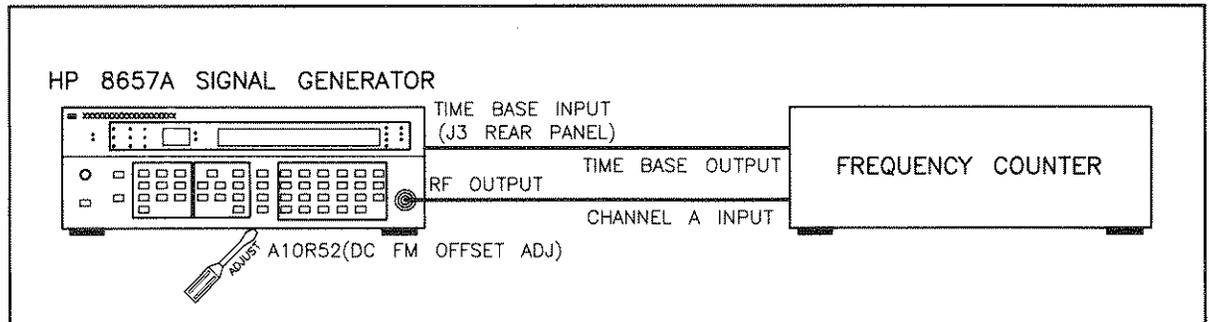

Figure 5-24. DC FM Frequency Offset Adjustment Setup
3. Connect the Signal Generator RF OUTPUT to the frequency counter CHANNEL A INPUT and the counter time base OUT to the Signal Generator Time Base INPUT as shown in Figure 5-24.